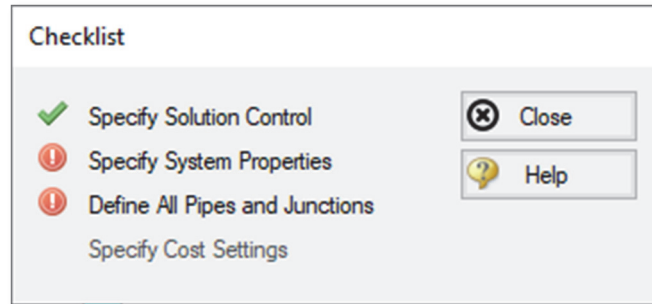

Figure 2.6 The Checklist window tracks the defined and undefined model input
The Workspace window is the initial active (large) window, as seen in Figure 2.6. The five tabs in the AFT Arrow window represent the five
- **Next, click the checkmark on the Toolbar** at the top of the AFT Arrow window. This opens the Checklist window (see Figure 2.6). The Checklist window (also simply called the Checklist) contains four or more items depending on which modules and features you may be using. Each item needs to be completed before AFT Arrow allows you to run the Solver.